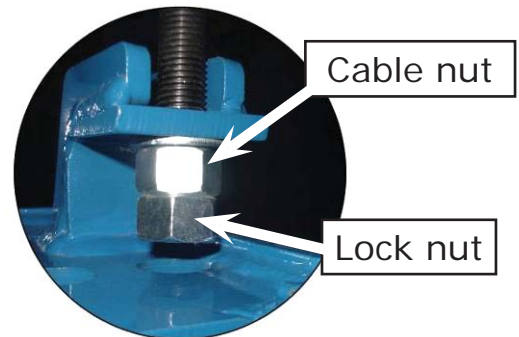

Fig. 53
1. Adjust equalizing cables (See Fig. 53)